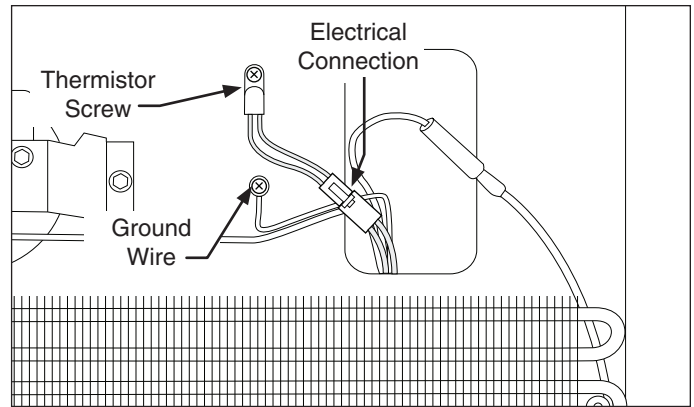

Figure 6-21. Thermistor Removal
5. Extract the screw securing the thermistor to the back wall of the cabinet interior. (See Figure 6-21)